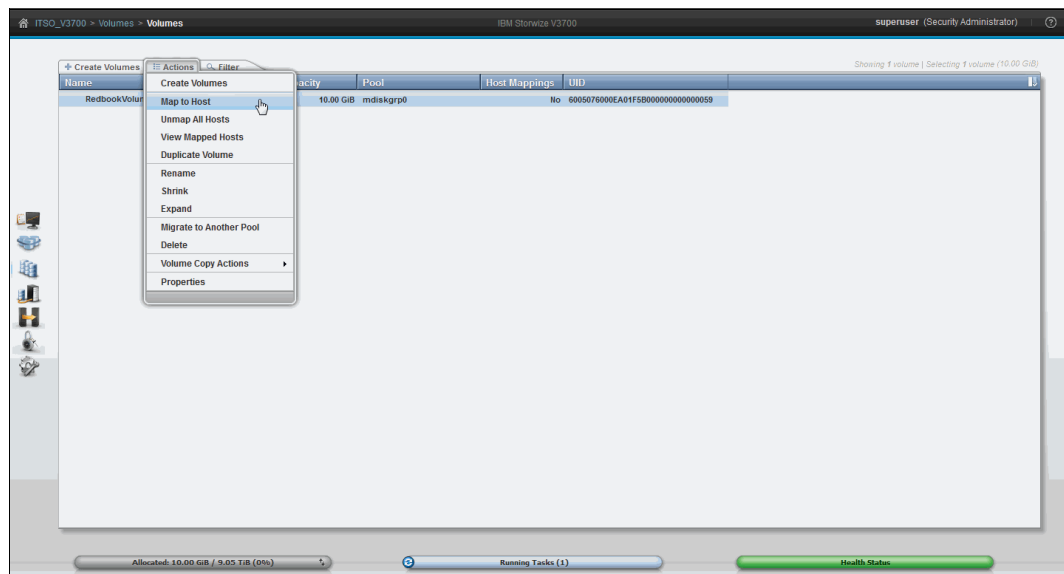

Figure 5-24 Manually creating host mappings from the Volumes view
1. Go to **Volumes** → **Volumes**, select the volumes that you want to map, and then click **Actions** → **Map to Host**, as shown in Figure 5-24.